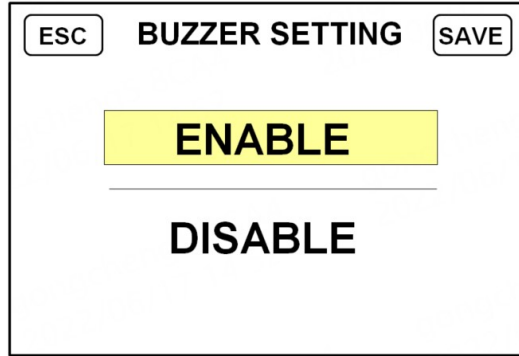

Figure 48
2) Click "2. Buzzer On/Off" to enter the buzzer setting interface, as shown in Figure 48 below: